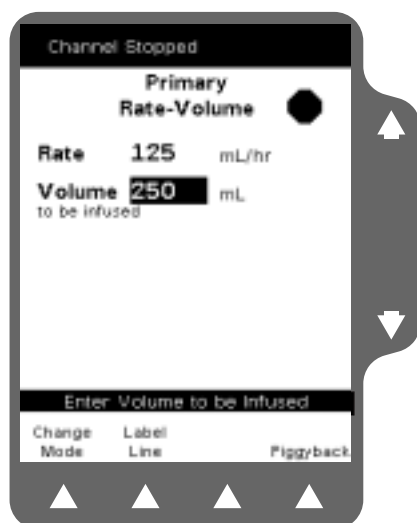

Figure 3-17 Enter Volume to be Infused
3. Press the **Vol** key or use the $\uparrow\downarrow$ keys to highlight the Volume to be Infused field for programming (Figure 3-17).